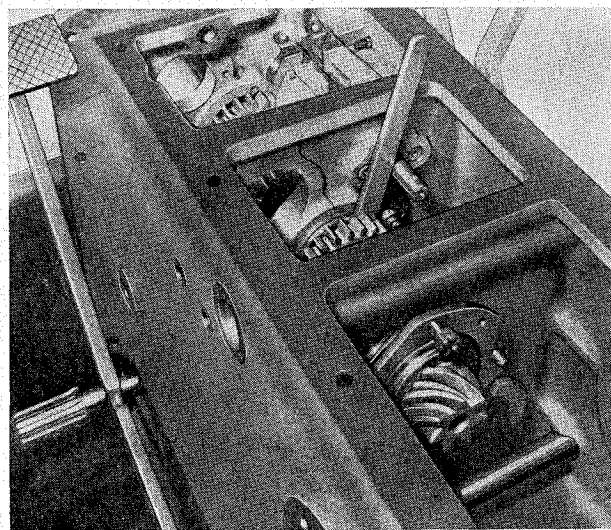

Fig. 55.
16. Prop the hook spanner against the reduction shifter shaft or against the gearbox wall (see Fig. 55) and turn the clutch or first motion shaft so as to tighten the nut.